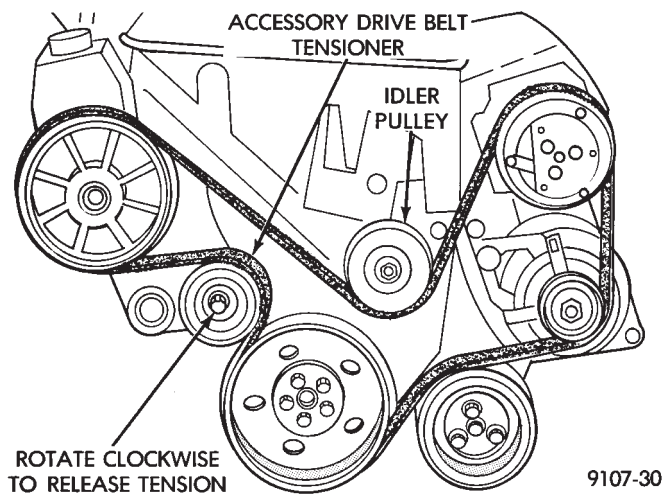

Fig. 18 Turbo III Accessory Drive Belt Routing
(1) Disconnect the battery (-) negative cable from the battery and isolate cable.
(2) Raise vehicle See Hoisting, Group 0. Put oil drain pan under vehicle to catch power steering fluid.
(3) Remove the right front underhood splash shield for access to the serpentine belt tensioner.
(4) Release the tension on the serpentine drive belt tensioner and remove drive belt from power steering pump pulley (Fig. 18). Drive belt does not have to be fully removed from engine.
(7) Install the serpentine accessory drive belt (Fig. 18). **Be sure the belt is correctly installed and aligned on all pulleys before starting engine.**
(8) Install the right front underhood splash shield.